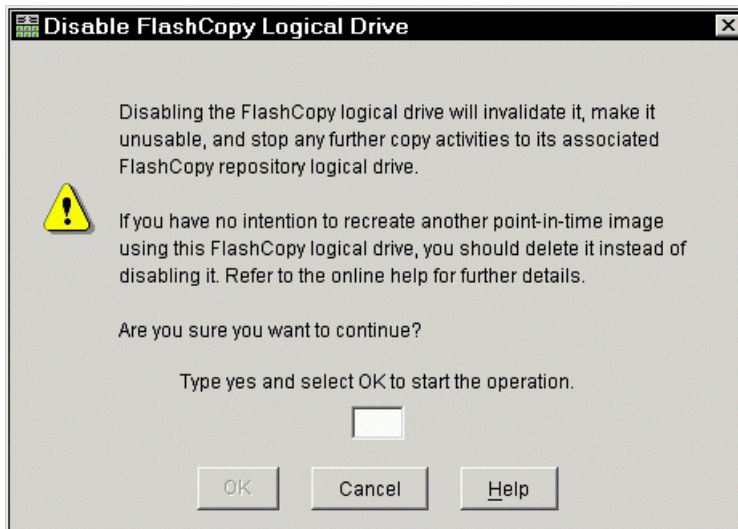

Figure 5-28 Disable FlashCopy confirmation window
2. The Disable FlashCopy Logical Drive confirmation window (Figure 5-28) opens. On this window, type yes and click **OK** to begin the disable operation.